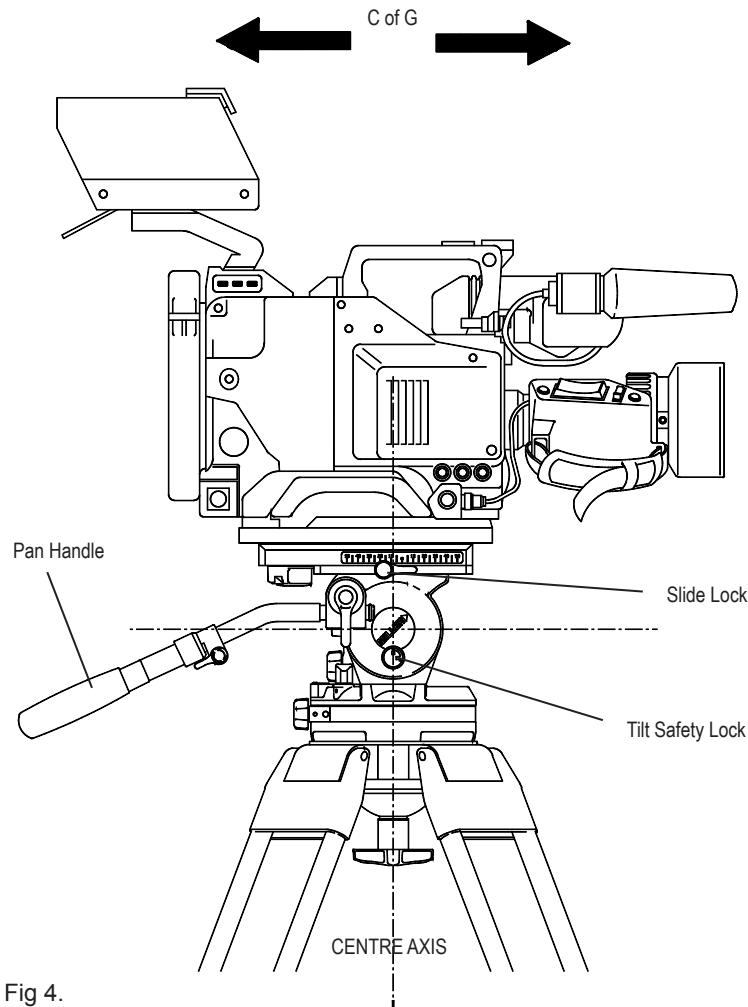

Fig 4.
3. Release the SLIDE LOCK lever and slide your camera forward or backward until balanced over the centre axis of the fluid head (see Fig.4). If necessary, be prepared to stop your camera sliding suddenly. Your camera will remain static when balanced.